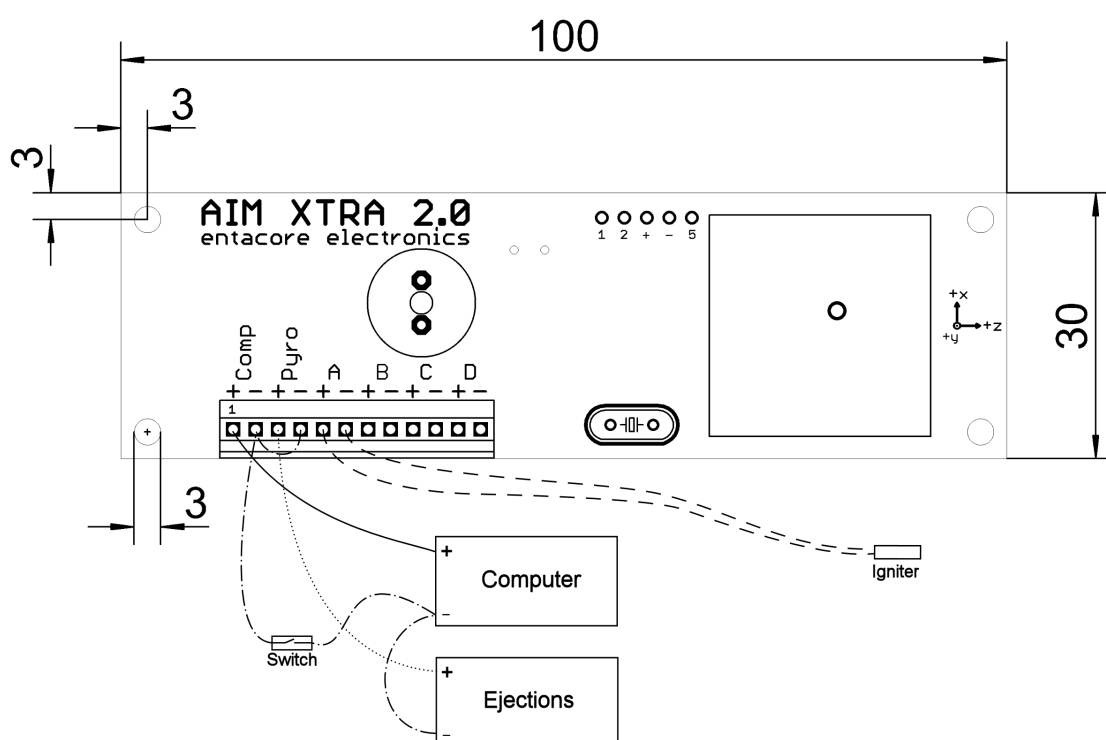

Figure 2.0.1: Standard configuration. For clarity, only one igniter is shown. Dimensions are in *mm*
Figure 2.0.1 shows the standard setup for the AIM XTRA device. The AIM XTRA features a dual power system, allowing you to have separate batteries for the flight computer and the ejections. This can be bypassed by simply connecting the two positive terminals together with a short wire. A single battery is not recommended unless you are not using ejections with the AIM XTRA, or you are using a battery with a high current discharge capability. The left two terminal blocks are for the computer (C) and ejection (E) batteries respectfully.
The 4 terminal pairs on the right of the two power terminal pairs are for igniters. Wire your igniters as shown in figure 2.0.1. Please ensure that your igniters do not draw more than 40 amps as an absolute maximum, and that they do not short out after being fired. If these precautions are not followed, the transistor switches might be damaged.